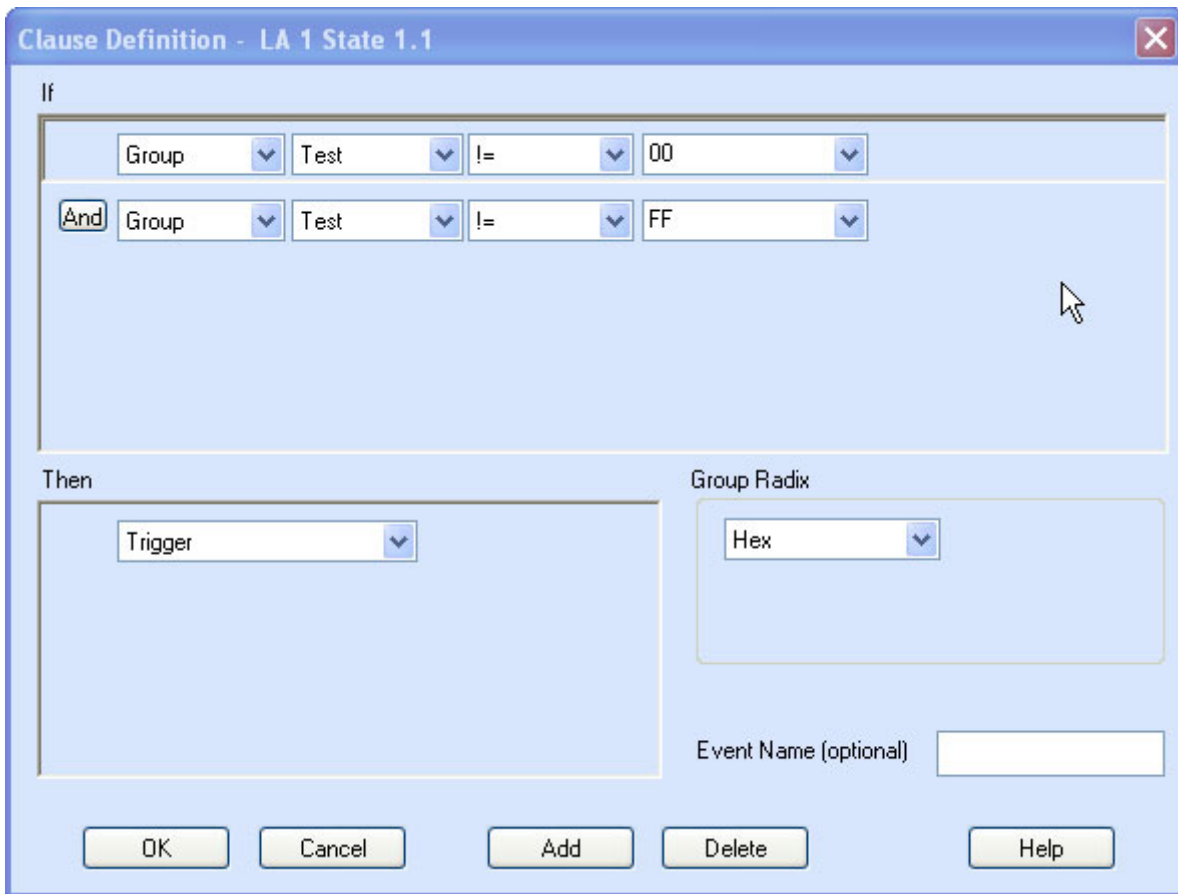

Figure 2: Setting trigger parameters
- b. Set the channel definition to match the figure shown. (See Figure 2 on page 16.)